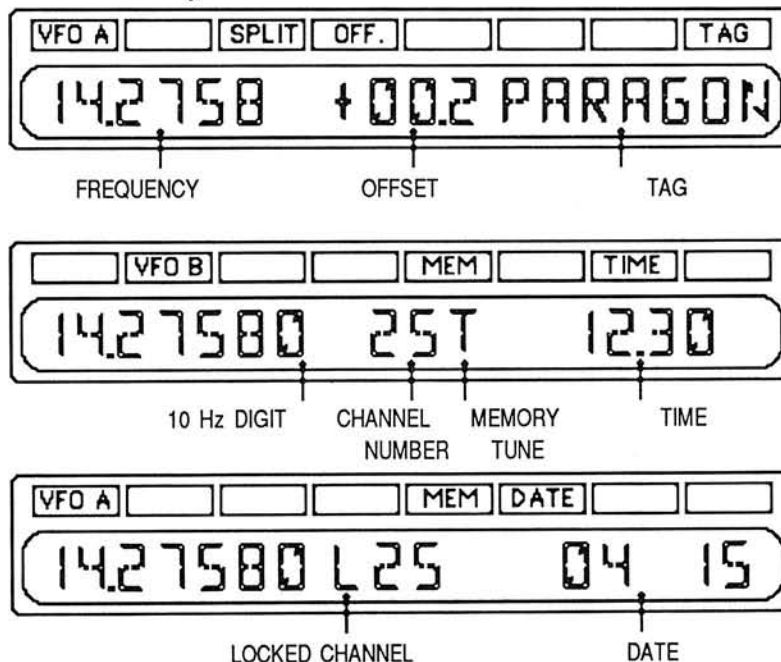

FIGURE 3-1. FRONT PANEL DISPLAY
**3-4.1 DISPLAY AREA** As shown in FIGURE 3-1, the vacuum fluorescent display shows the frequency, Rx/Tx Offset, memory status, the date, time, or tag, and other micro-processor controlled functions. The eight annunciators above show the VFO selection, OFFset or MEMory selection, and the DATE, TIME, or TAG selection.